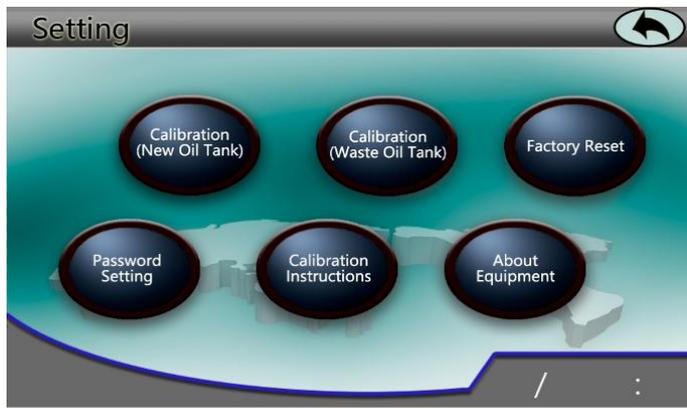

Fig.6
- 1.2 **Setting:** Includes sensor calibration, equipment information, instructions for use and password setting, etc.(Fig. 6);